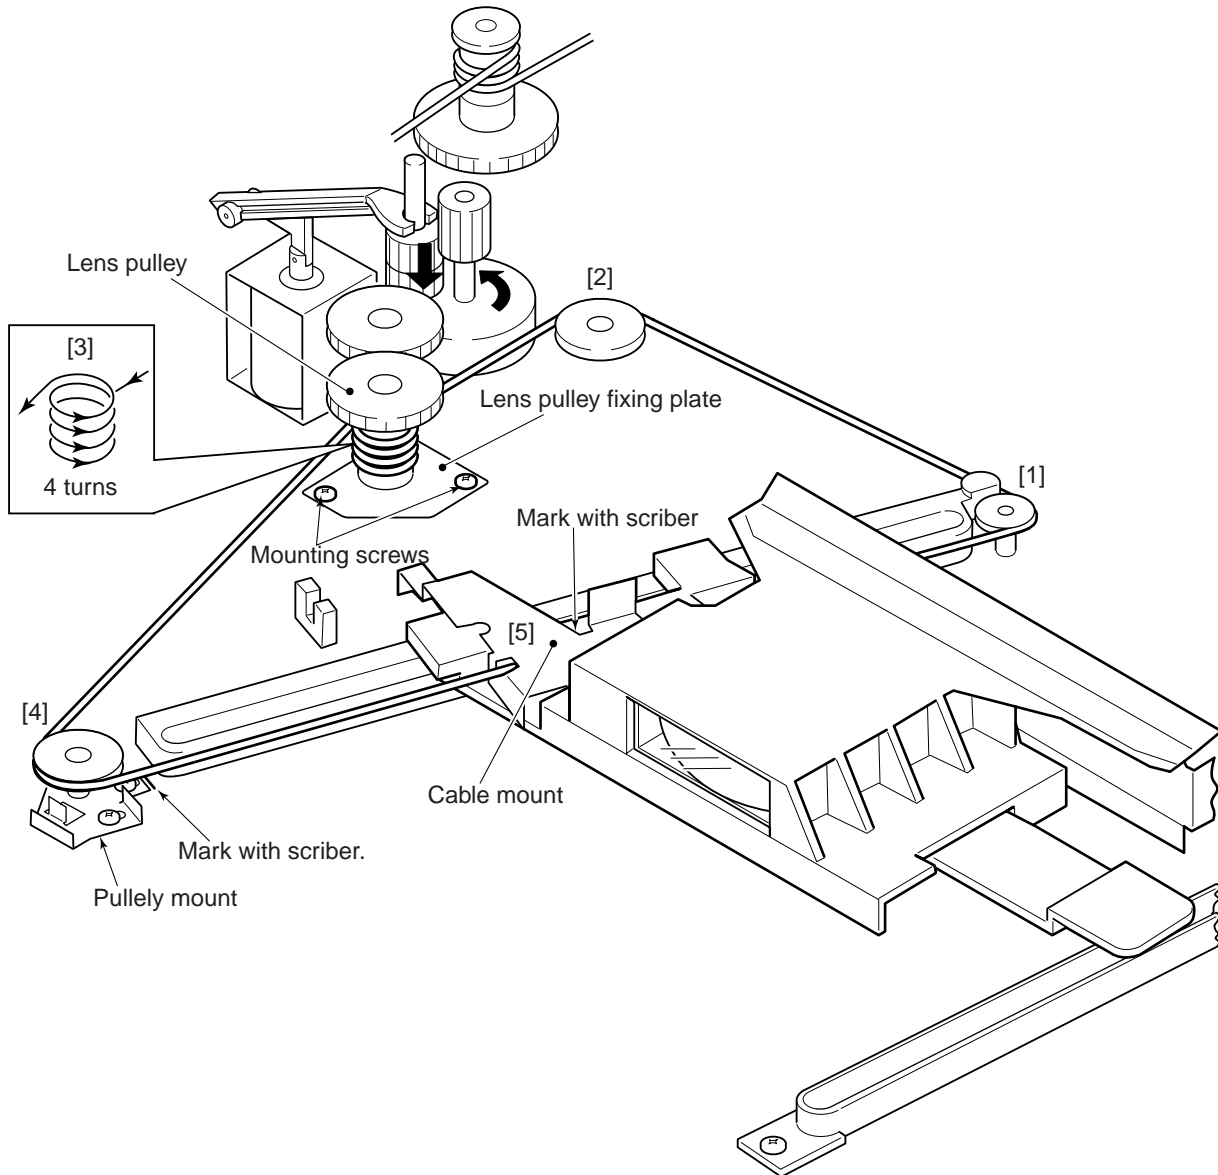

Figure 3-401
- 3) Mark the position of the pulley mount and the cable mount using a scriber; see Figure 3-401.
- 1) Remove the two screws that hold the lens pulley fixing plate in place, and detach the lens pulley; see Figure 3-401.
- 2) Wind the lens cable around the lens pulley as shown in Figure 3-401; then, fix it using two screws.